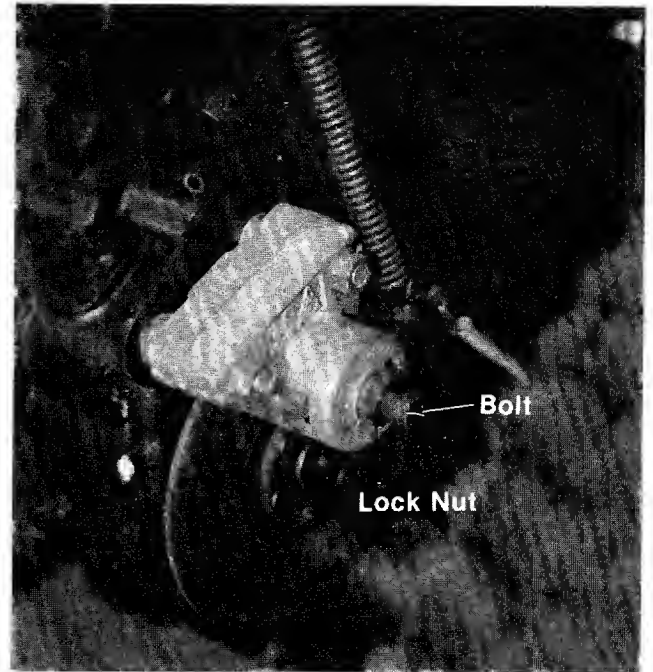

FIGURE 10.
1. Loosen the lock nut. See figure 10.
After the first two hours of operating a new engine, drain the oil (see figure 10) from the crankcase while engine is still hot and refill crankcase with new oil; thereafter change the oil after every 25 hours of operation. This procedure ensures minimum wear of engine parts. To change the oil, proceed as follows: